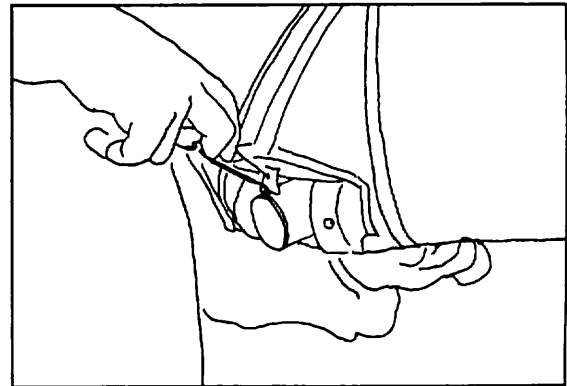

Figure 24
17) Push the nose batten all the way back into the sail, lifting the tip over the top of the keel until it is seated on top of the keel. (Figure 24)